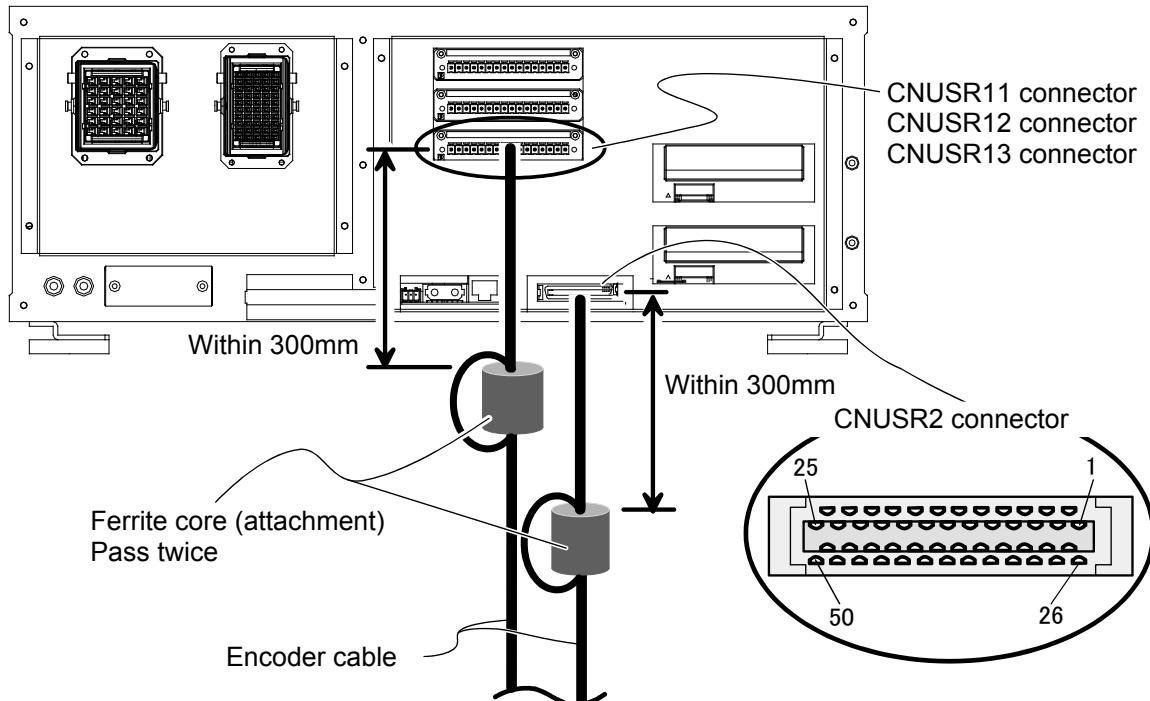

Figure 10-7 Installation of encoder cable (CR750-D series)
- *CR750-D series: "Figure 10-7 Installation of encoder cable (CR750-D series)"